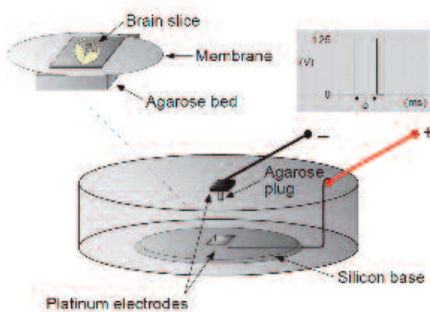

Figure 1.
2. Cut a small block from the gel to serve as a mount for the slice and place on the bottom electrode (see Figure 1).
4. A tiny column of agarose is attached to the wand electrode (column can be made in different diameters with a set of clipped and filed syringe needles, see Figure 1).